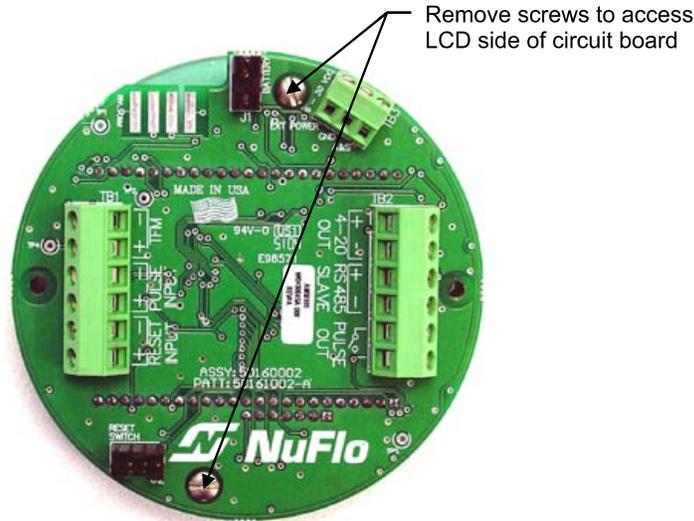

Figure 6.5—Disassembly of circuit board/keypad assembly
7. Remove the two #4-40 × 5/16” screws fastening the circuit assembly to the keypad assembly (Figure 6.5, page 90).
4. Remove the two #4-40 × 5/16" screws fastening the circuit assembly to the keypad (*Figure 6.5, page 90*).